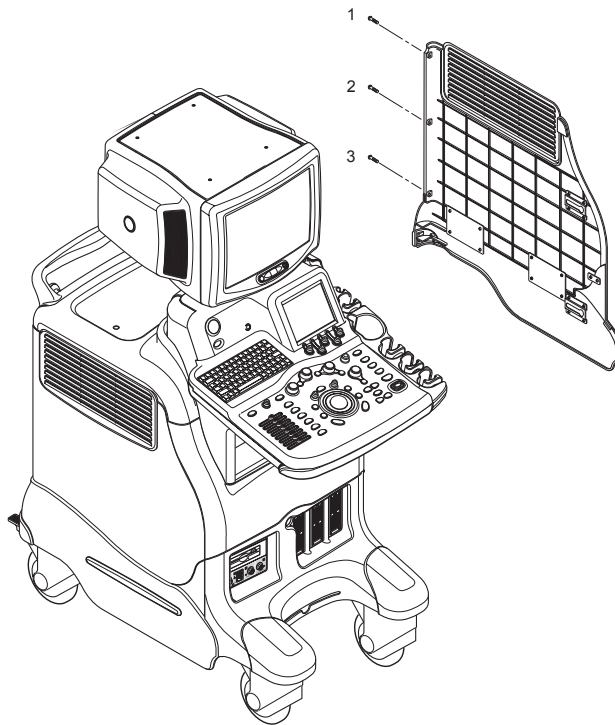

Figure 8-49 Removing the right cover
- 3.) Remove the Right Cover. Refer to section Figure 8-49 on page 34.